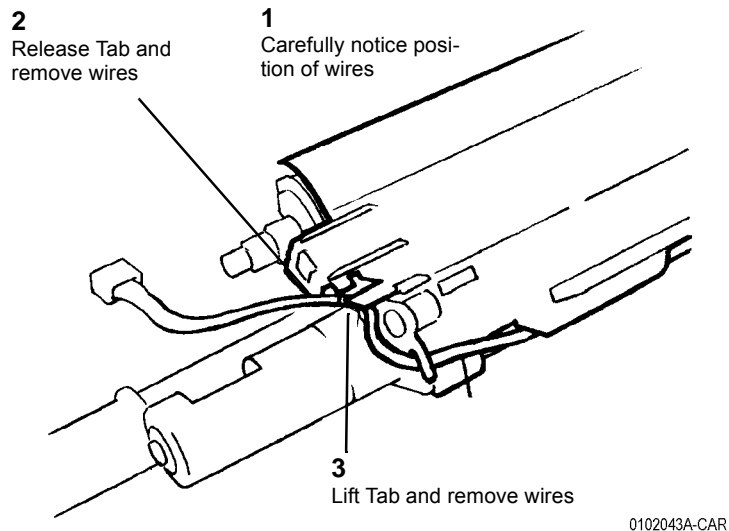

Figure 1 Removing Harness form Clips
12. Release Harness from Harness Clips (Figure 1).